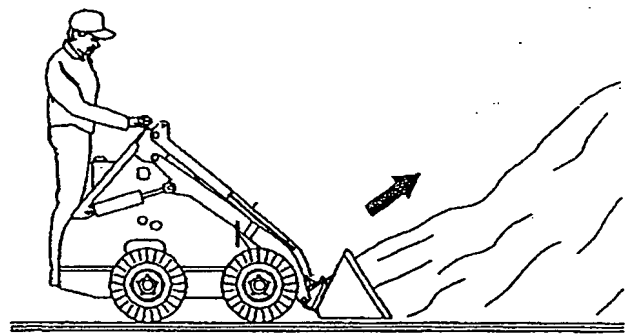

FIGURE 13
2. As soon as the bucket is full, tilt bucket back and back away from the pile, as shown in Figure 13 and 14.